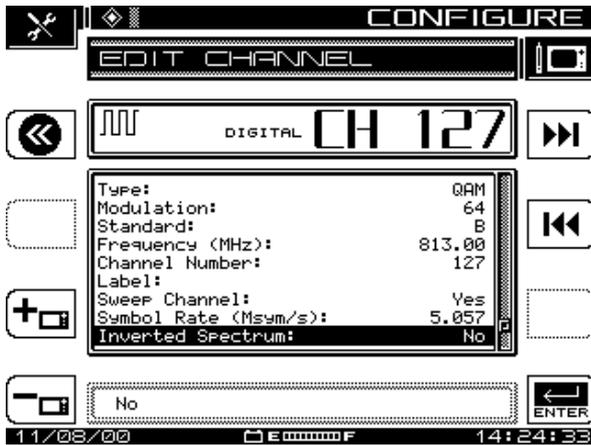

Fig. 3-11 EDIT CHANNEL Menu Screen (Inverted Spectrum)
- If the default setting for Inverted Spectrum is incorrect, press the diamond key to highlight Inverted Spectrum and press Enter to edit the current selection. Use the down diamond key to select the alternate choice, and press Enter (see Figure 3-11).